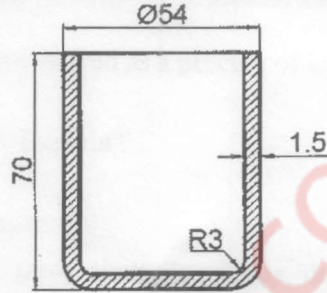

Figure 3
- (c) For a drawn cup shown in Figure 3, [10]